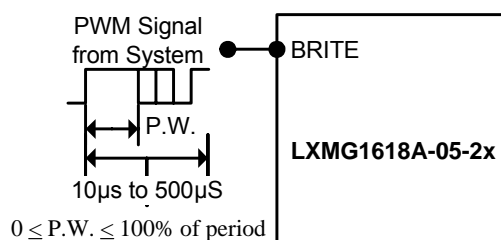

Figure 1A – PWM Brightness Control
- The brightness control may be a voltage output DAC or other voltage source, a digital pot or 500K manual pot. The inverter contains effectively an internal 338k pull-up to 3V to bias the pot, if desired; add a resistor to set the lower threshold voltage above the absolute minimum dim level capability. A 3.3V Logic Level PWM signal from a micro-controller may also be used as shown in Figure 1A.